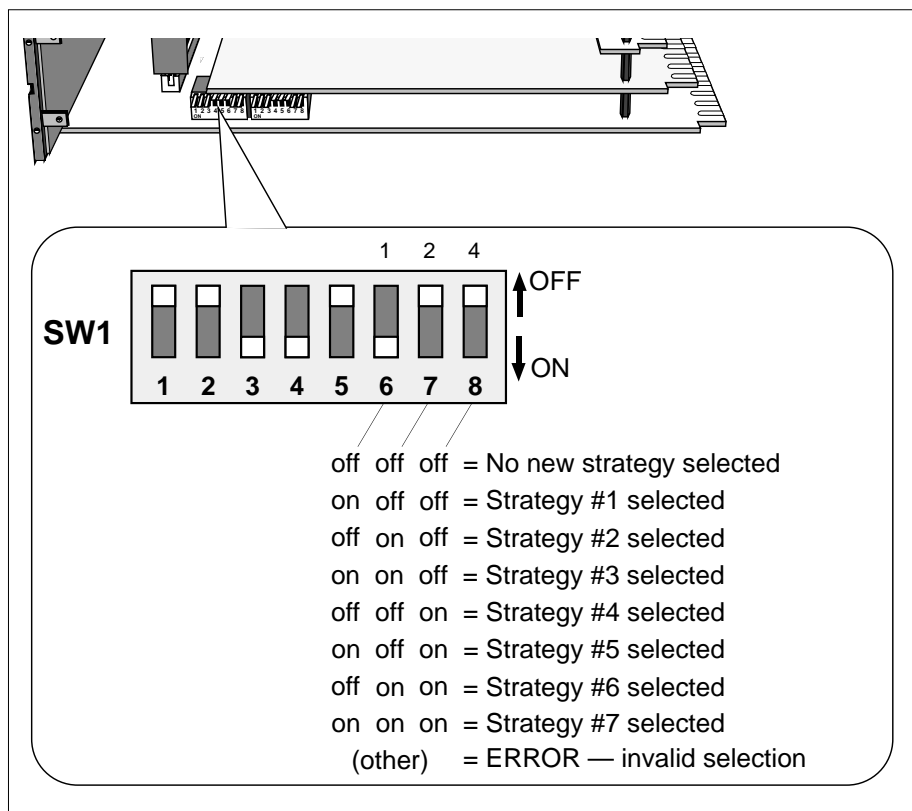

Figure 5-1 SW1 switch settings for strategy selection
When you select standard strategy *#n* via the motherboard DIL switches (Figure 5-1 reminds you how to do this) your custom strategy will load and run. The method works because the T640 does not attempt to unpack (decompress) the dummy .PK*n* file provided the corresponding .DBF file already exists in EEPROM.
- 3 Withdraw the T640 from its sleeve (taking the necessary anti-static precautions — see Chapter 2) and set switches 6, 7, and 8 of switchbank 1 to the strategy number required. (Figure 5-1 reminds you of their location and how to set them.)